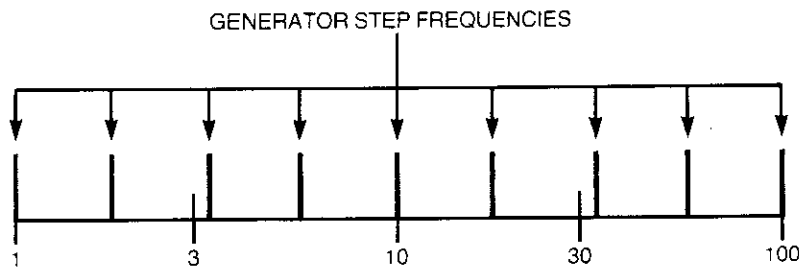

Fig. 6.1 Example of Logarithmic Sweep at 4 Steps per Decade
1. By n steps per decade. The ratio is the n th root of 10. Hence the frequencies appear spaced at equal intervals if plotted along a logarithmic base line. See example, Fig. 6.1.